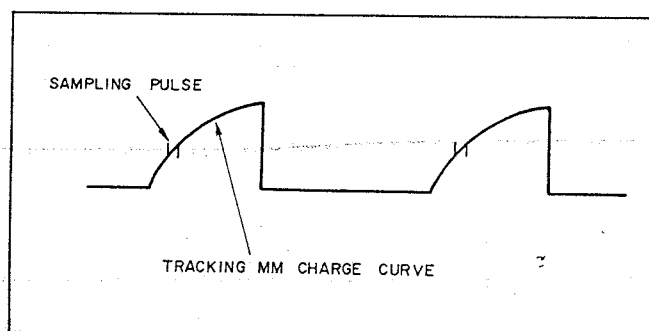

Fig. 4-106 Capstan Motor Speed
6. Remove the jumper between TP601 and TP901 and confirm the sampling pulse is locked in on the trailing edge of the cylinder tach pulse. (See Fig. 4-106)